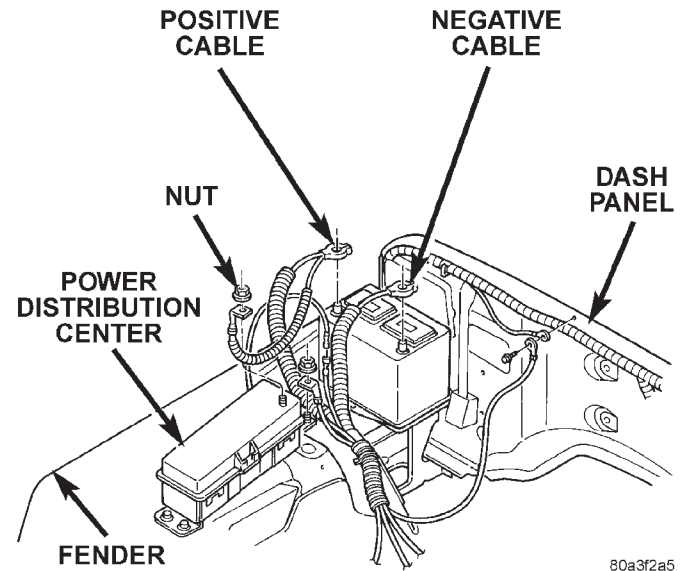

Fig. 2 Power Distribution Center
(1) Disconnect and isolate the battery negative cable.
(2) Remove the cover from the Power Distribution Center (PDC) (Fig. 2).